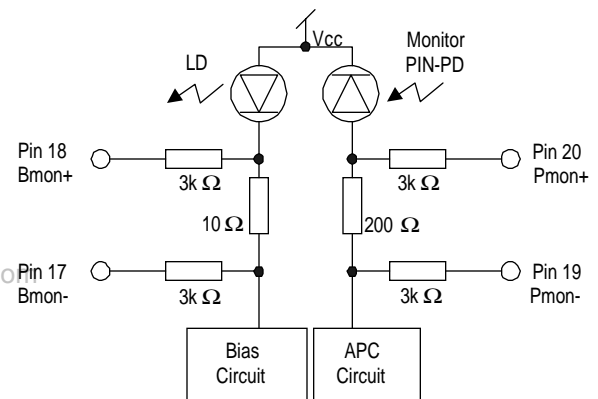

Figure 14. Bmon and Pmon Interface
- Refer to figure 14 for details of Bmon and Pmon outputs.
9. The Laser Bias Monitor Current and Rear Facet Monitor Current are calculated as ratios between the corresponding voltages and current sensing resistors, 10Ω and 200Ω, as shown in the figure 14.